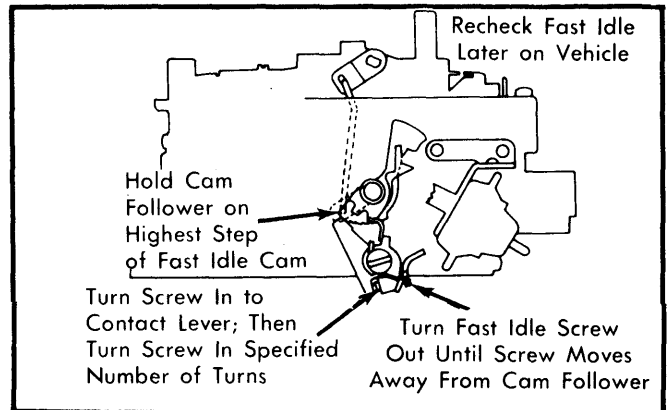

Fig. 5 Adjusting Fast Idle (Bench Setting)
- 2) Turn fast idle screw in until it just contacts lever, then turn in an additional 3 turns. See Fig. 5.